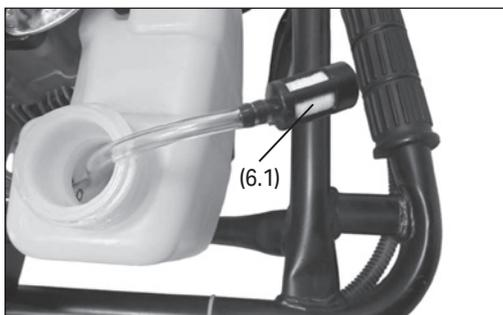

Fig.12
8.5 Cleaning the Fuel Filter (Fig.12)